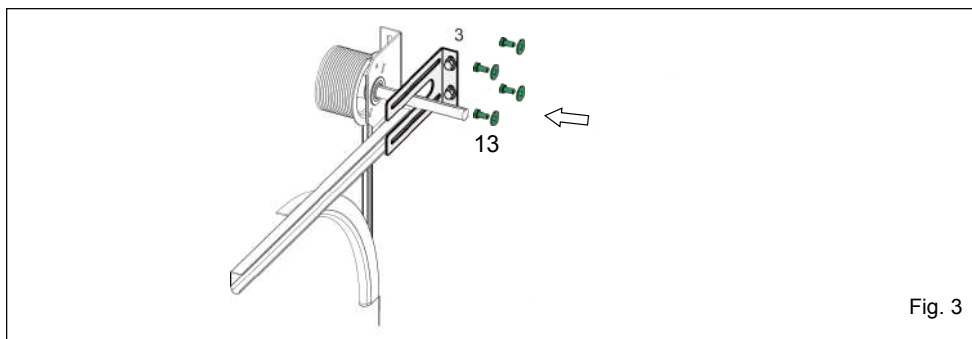

Fig. 3
Slide the door operator onto the door drive shaft (20) in Fig. 3. Secure the door operator with the 4 screws and washers (13) in Fig. 3.